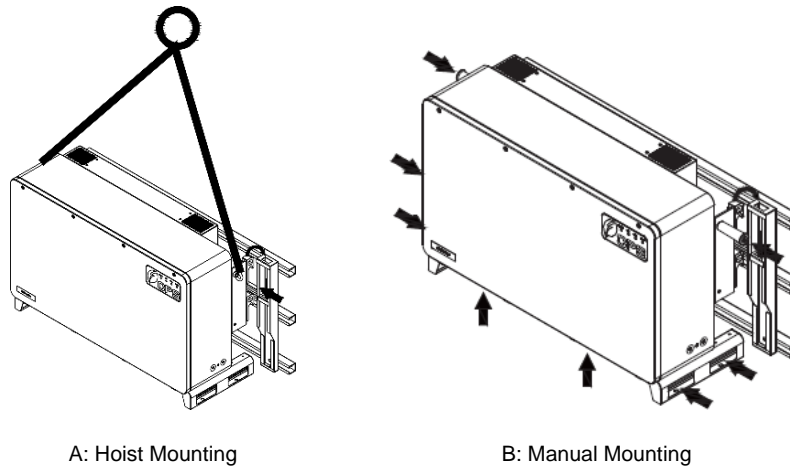

Figure 3-7 Inverter Mounting Methods
- **Hoist mounting:** Screw two (2) M10 lifting eyebolts to the studs at the top of the inverter, then use a sling rope or bar (inserted through both lifting eye bolts) to lift the inverter onto the bracket. The minimum angle between the two sling ropes must be less than 90° (Figure 3-7 left).
- **Manual mounting:** At least four people are needed to properly lift the inverter by the two handles and supporting positions (marked by the arrows in Figure 3-7 right) and mount the inverter onto the mounting bracket.